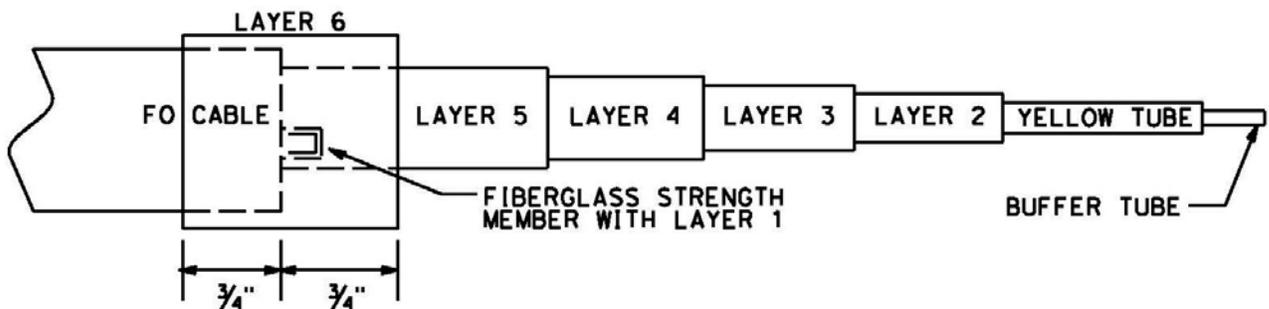

FIGURE 2
- Create strain relief using layers of shrink tubing, see Figure 2.